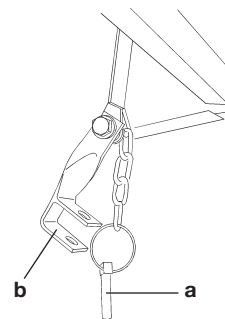

Fig.2
- b) Remove the securing pins (a) from the supports (b) at each side of the spare wheel carrier frame (c) (Fig. 2).